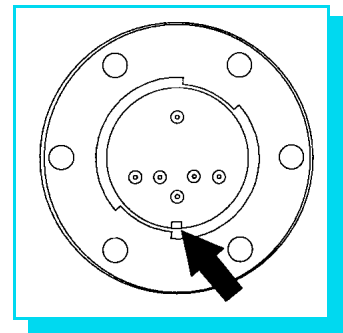
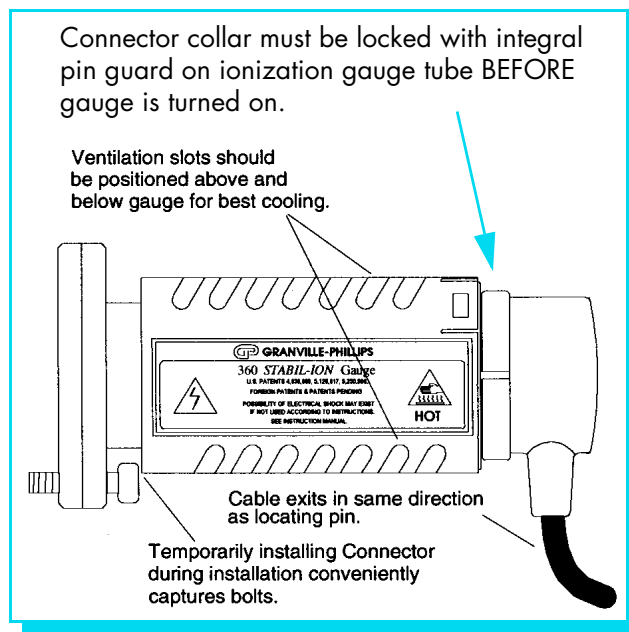

Figure 3-1 Stabil-Ion Gauge Showing Connector Locating Key.
Figure 3-3 Stabil-ion Gauge with Connector and Guard.
- Any mounting orientation may be used. However, to minimize the possibility of excessive temperature at the electrical connector when degassing, do not install the Stabil-Ion Gauges with the electrical connector above the gauge. If it is necessary to install the gauge with the connector on top, degas time must be limited to 10 minutes/hour. See Section 2.1.7 on page 2-15. When mounted horizontally, the ventilation slots in the Guard will be oriented for best cooling if the gauge is installed with the locating key in the pin guard on the bottom. See Figure 3-1 and Figure 3-3. Note in Figure 3-3 that the cable will exit in the direction the locating key is oriented.